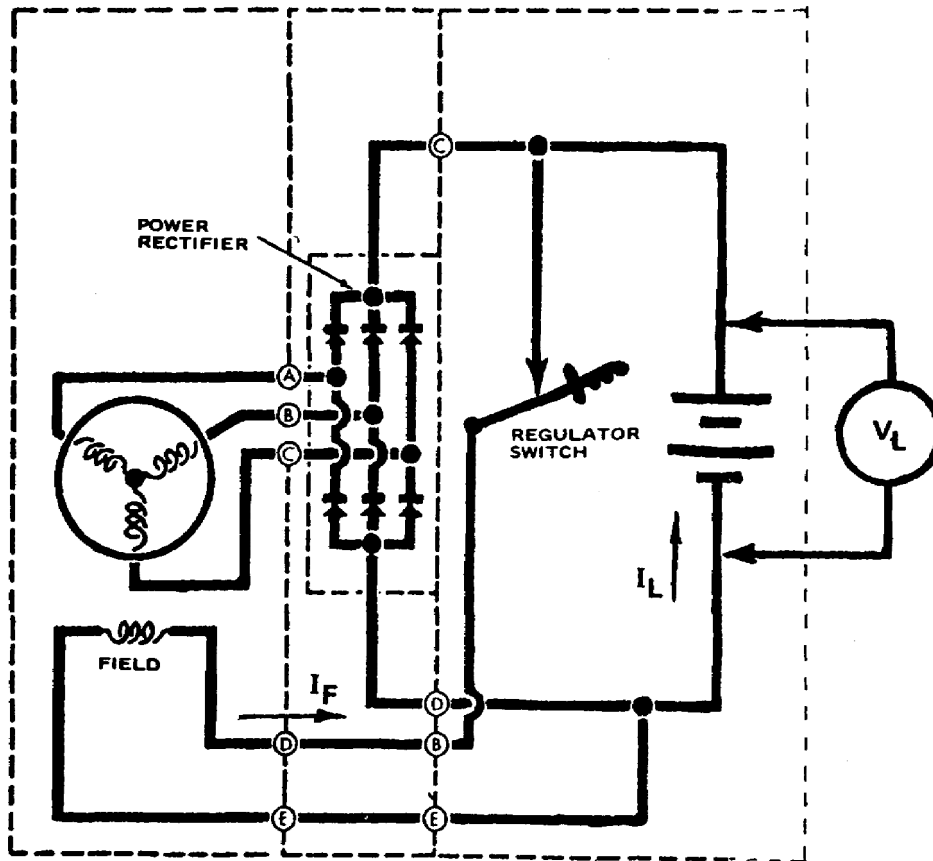
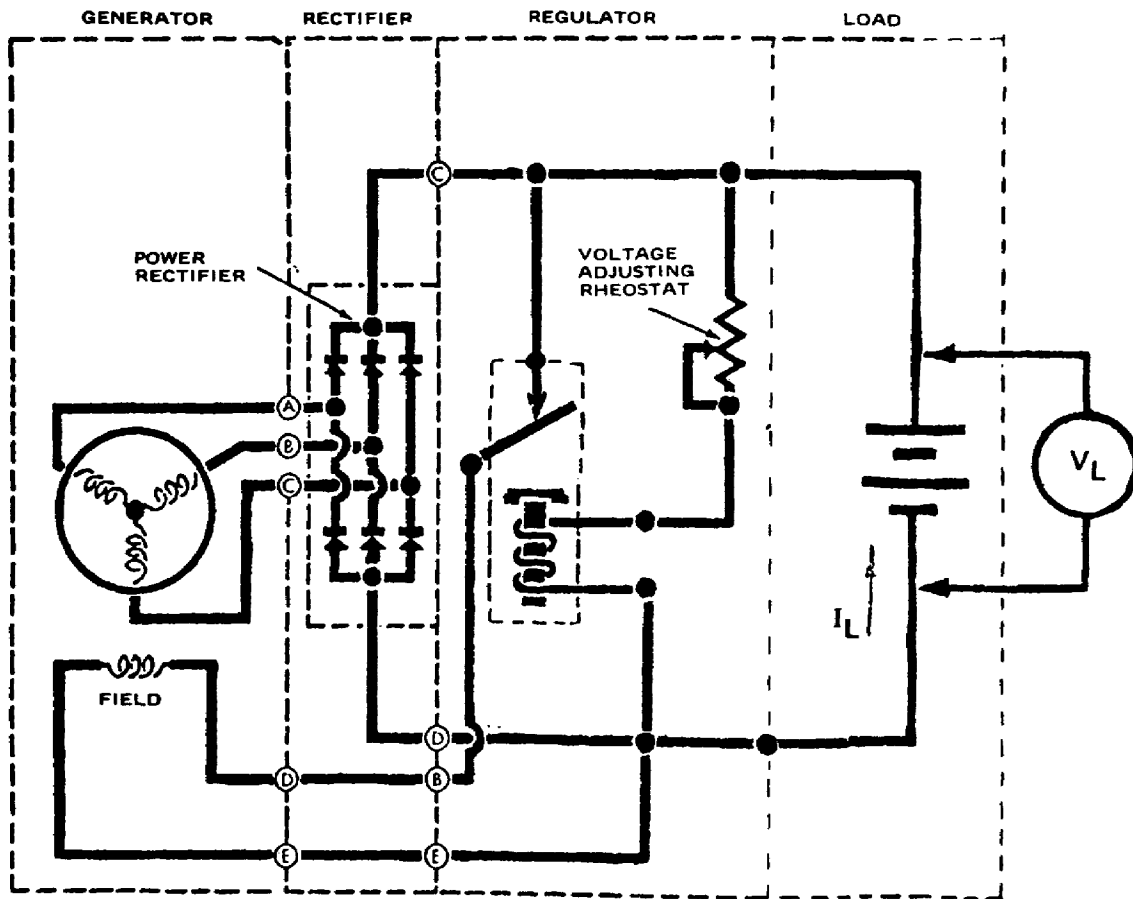

Figure 4. Regulator switch.
Figure 5. Automatic regulator.
b. Another scheme may be used to control the amount of magnetic flux in the field; this is shown in figure 4. Here the field winding is connected across the battery that is being charged. Notice that it is connected through a regulator switch.
(1) When the voltmeter indicates above normal, we open the switch and shut off the field current ( $I_F$ ). This causes the magnetic flux to decrease, thereby decreasing the output of voltage.
(2) When the voltmeter indicates below normal, we close the switch and apply the field current ( $I_F$ ). The current  $I_F$  produces an increasing magnetic flux increasing the output voltage.
(3) By our observations, we can regulate the output voltage by opening and closing the regulator switch. However, an automatic system has been devised to open and close the switch, thus producing the regulator that we use today.
c. The first type of automatic regulator incorporated a relay with a set of normally closed contacts (fig 5). This is a simplified circuit but it can be used to explain the operation.
(1) The relay is voltage sensitive. Its sensitivity can be controlled, over a small range, by a rheostat or a variable resistor.
(2) When the voltage increases above normal enough current will flow through the relay to energize it. When it energizes, the field circuit is opened cutting off the current. The magnetic flux decreases lowering the output voltage.
(3) When the output voltage decreases, the current through the relay is reduced, thus applying less magnetic force to the spring-loaded contact. When the magnetic force of the relay coil is less than the force of the spring, the contact will once again close. Upon the closing of the relay contact, current once again flows through the field winding, which will cause the output voltage to increase.
(4) The opening and closing of the relay contacts are continuous; so, during normal operation, they vibrate. The rate of switching will vary according to the speed of the generator, thereby regulating the output voltage. The rate can be as low as 10 times per second and as high as 7,000 times per second.
d. There is one thing wrong with the circuit in figure 5 and that is, when the vehicle is stopped, the battery will be connected to the field winding continuously, thereby discharging the battery.
(1) Since a field winding can draw from 1 ampere to 10 amperes of current, depending on the size of the generator, it could run the battery down while the vehicle is sitting overnight.